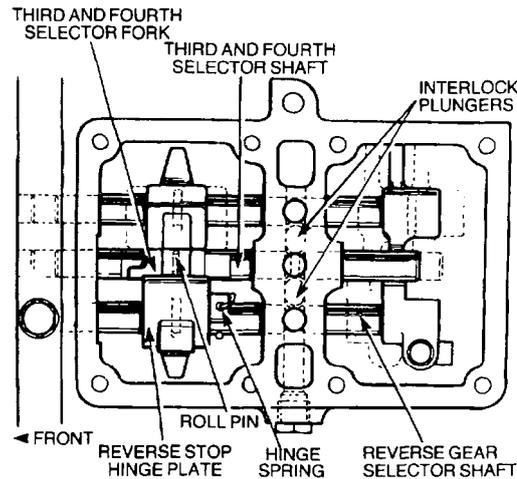

Figure 179 Installing the Third and Fourth Gear Selector Fork
- hhh.** Locate the third and fourth gear selector fork in the outer member groove and position the fork with the roll-pin entry hole at the top right-hand side. Insert the third and fourth gear selector shaft and interlock pin assembly and secure the shaft to the selector fork with a new roll-pin (Figure 179).
- iii. Insert an interlock plunger on either side of the third and fourth selector shaft and position the reverse stop hinge plate and selector in the transmission case adjacent to the third and fourth gear selector (Figure 179).
- jjj. Install the reverse gear selector shaft and engage the selector and hinge spring (Figure 179). Push the shaft in fully and engage the reverse crossover lever intermediate selector. Do not tighten the pinch-bolt at this stage. Secure the reverse gear selector to the shaft with a new roll-pin.